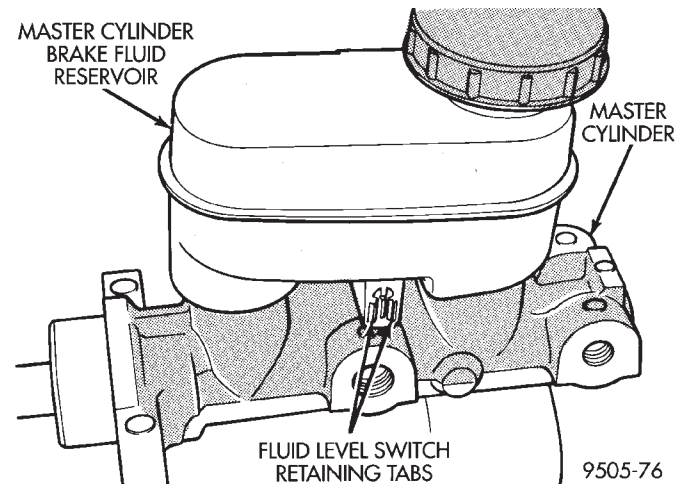

Fig. 151 Brake Fluid Level Switch Retaining Tabs
(2) Compress the retaining tabs (Fig. 151) on the end of the brake fluid level sensor.